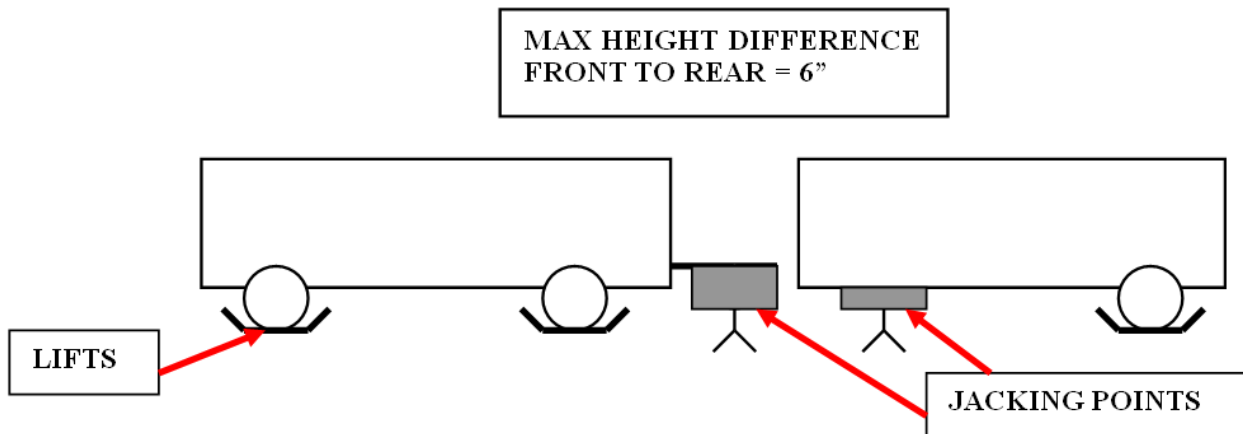

Figure 9: Jacking Points
8. Ensure all jacking points are supported as shown in Figure 9.
9. Remove and discard the sixteen (16) 5/8" bolts, washers and spacers that mount the joint to the flex plate.